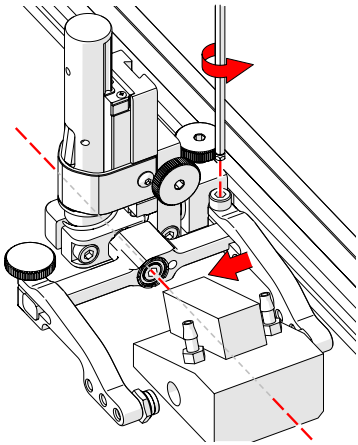

Fig. 108 - Adjust inner arm
4. Position the wedge on the inner probe holder arm (Fig. 108).
**TIP:** The probe holder yoke can accommodate many different probe and wedge sizes of varying widths. It is best to centre the wedge with the yoke's pivot axis. This can reduce wedge 'rocking' when scanning. Position the inner probe holder arm accordingly (Fig. 108) using the supplied 3 mm hex driver (Fig. 51).